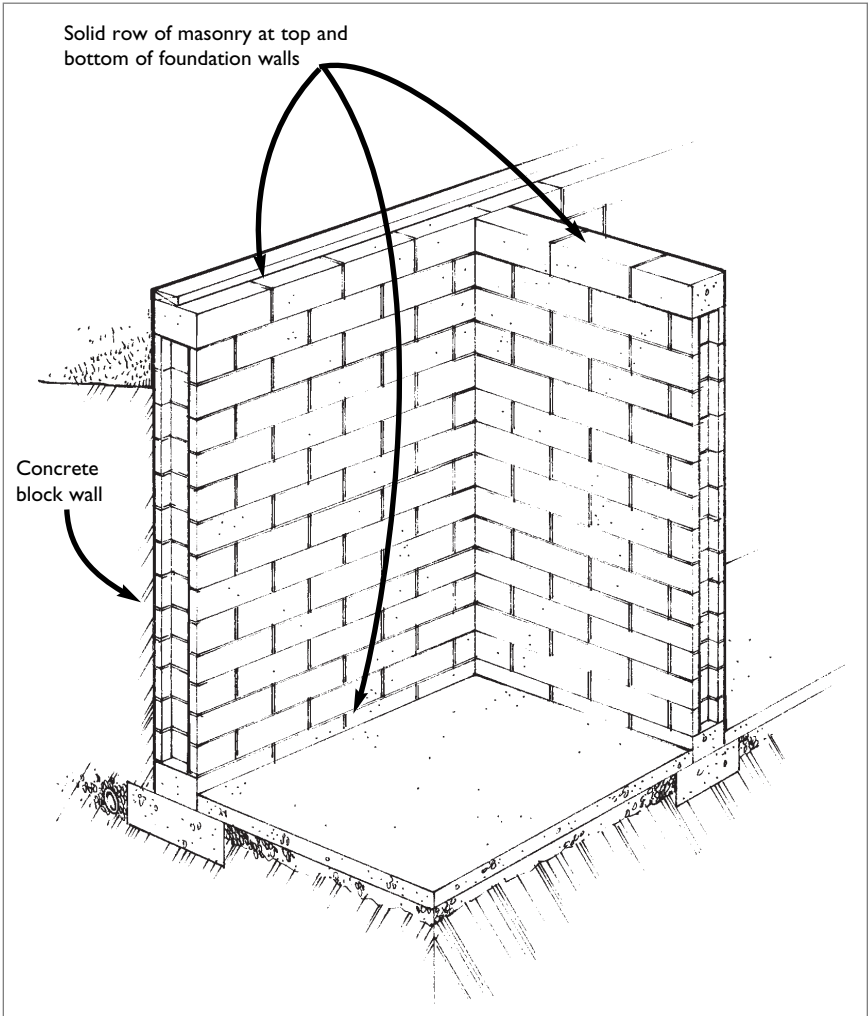

Figure 19: Eliminating voids at the top and bottom of new concrete block foundation walls
- Use a solid course of masonry units at the top and bottom of concrete block foundation walls (*see* figure 19). If regular concrete blocks with voids are used instead, a major entry route for radon may be created.